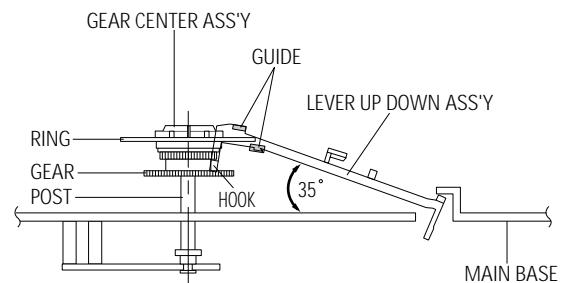

Fig. 1-22 Lever Up Down Ass'y Removal
- 1) Insert the Lever Up Down Ass'y ① in the rectangular holes on Main Base as shown in Fig 1-22.
- 2) Lift the Lever Up Down Ass'y ① about 35°. (Refer to Fig 1-22)
- 3) Insert Ring of the Gear Center Ass'y ② in the Guide of the Lever Up Down Ass'y ①.
- 4) Insert the Gear Center Ass'y ② in the post on Main Base.
- 5) Push down the Lever Up Down Ass'y ① for locking of the Hook.